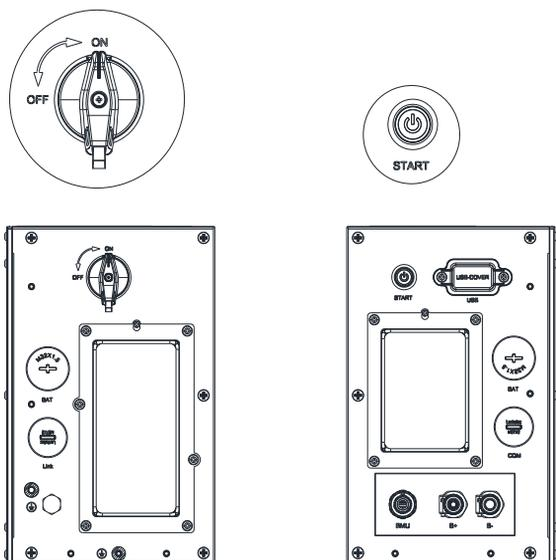

Figure 5-2
Step 1: Turn on the DC switch of the Power Module(Figure 5-2).
Step 4: Press the START key and hold for five to eight seconds(Figure 5-2).
Step 3: Turn off the DC switch of the Power Module(Figure 5-2).